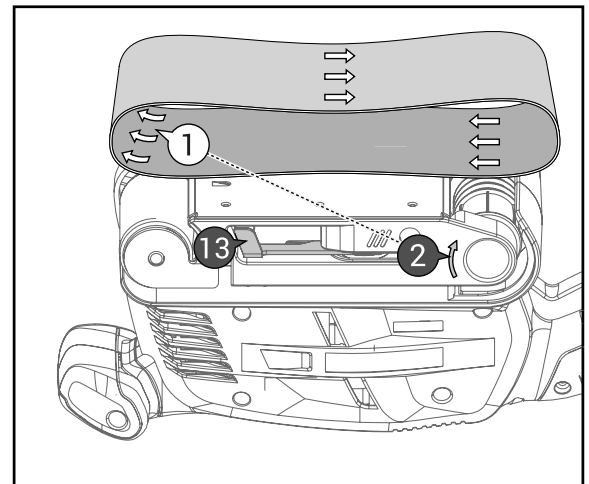

Fig. 1
2. Swivel the belt tensioning lever (Fig. 1 - 13) completely out to release the sanding belt's tension.
4. Mount a new sanding belt (or one of a different grit for use on a new material) on the rollers. Make sure that the arrow on the inside of the belt (Fig. 1 - 1) is pointing the same direction as the arrow on the rear roller (Fig. 1 - 2). Check to make sure that the sanding belt does not touch the sides of the casing.
5. Carefully push the belt tensioning lever (Fig. 1 - 13) back to the original position.